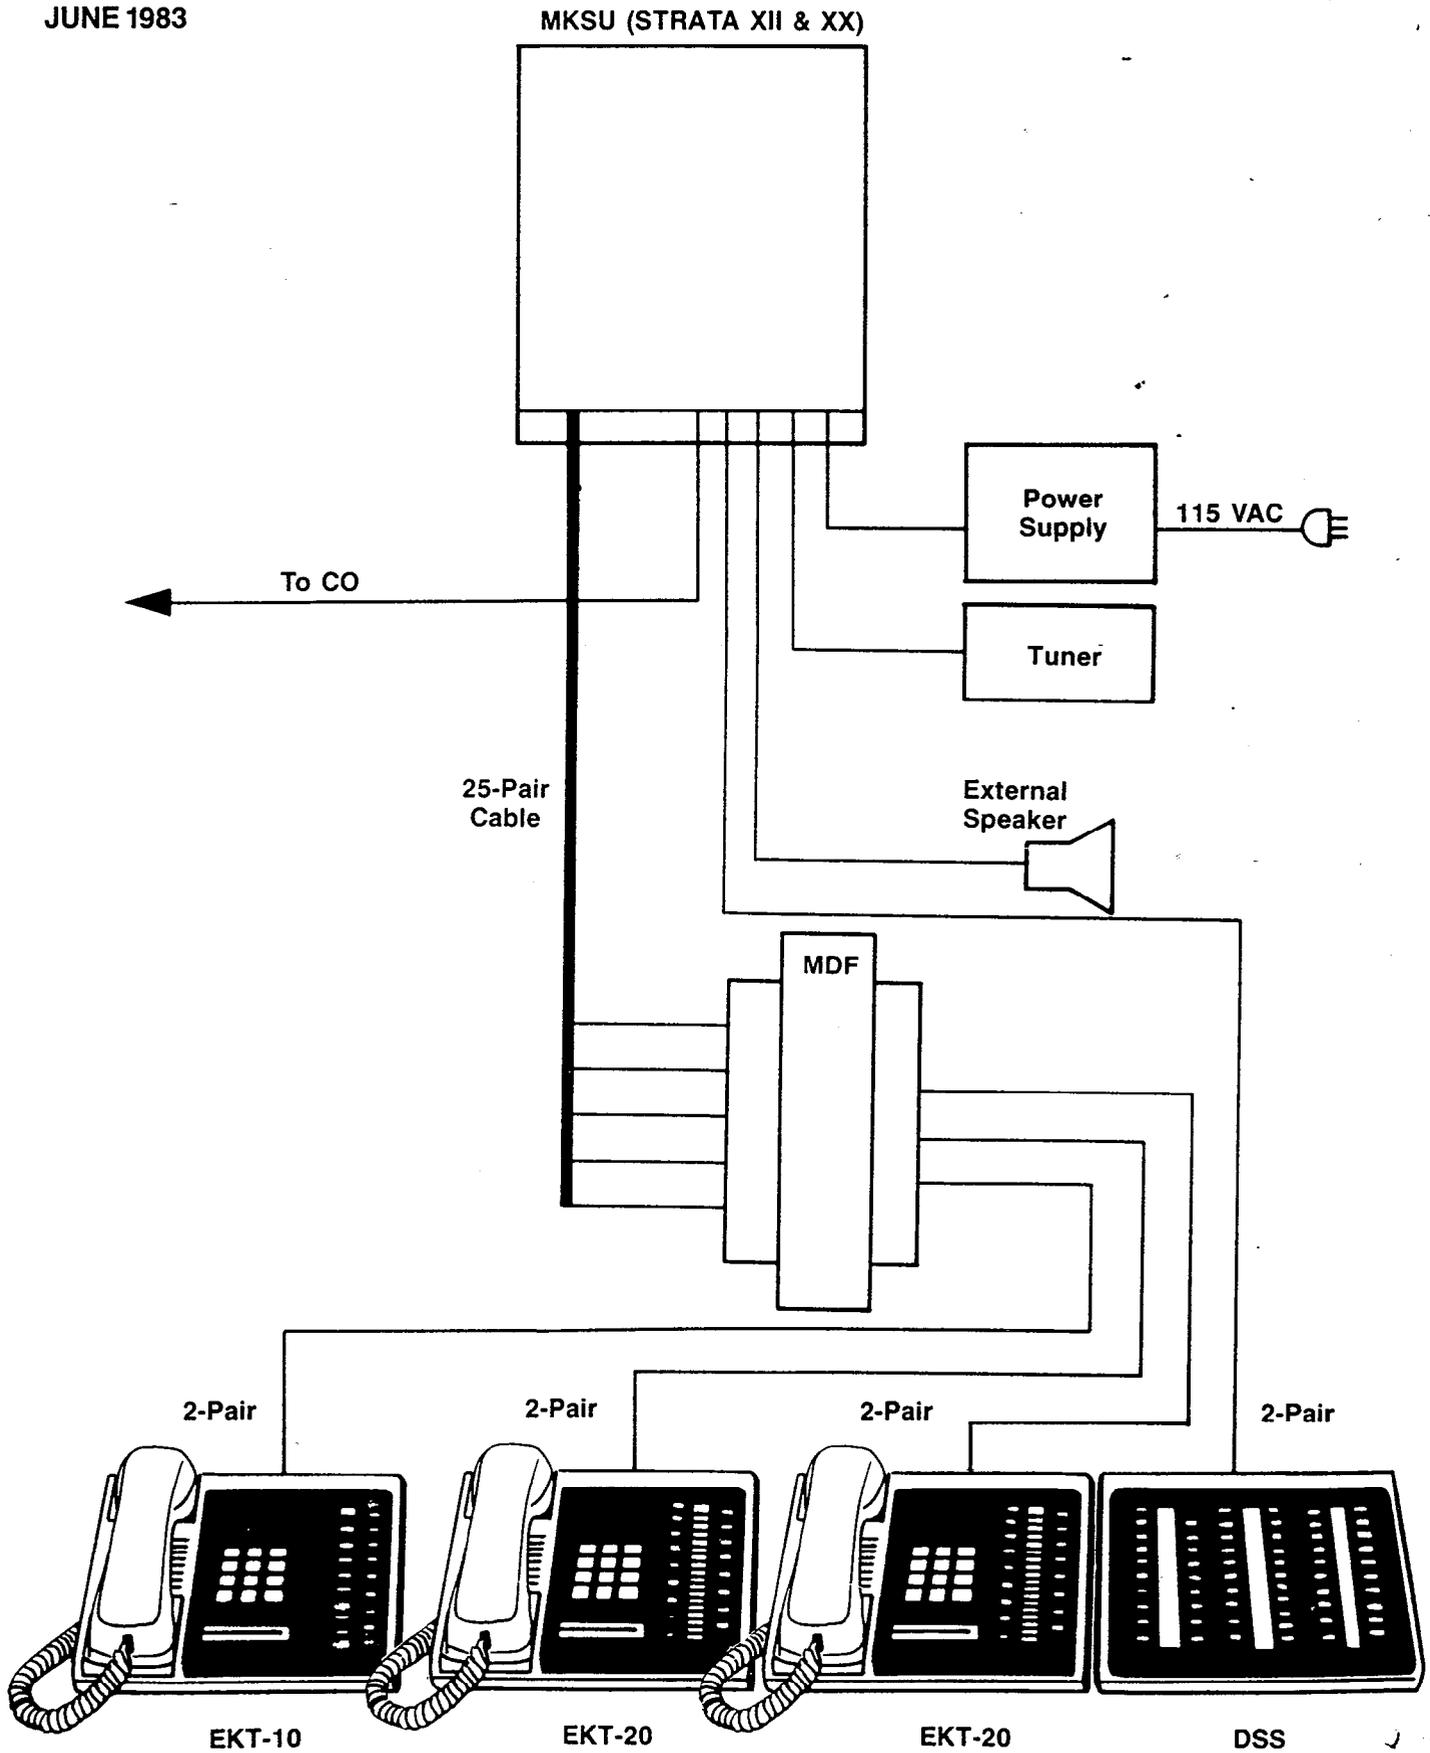

FIGURE 8 — SYSTEM DIAGRAM
05.01 The system (Figure 8) consists of an MKSU, power supply and up to 32 (STRATA XII) or 56 (STRATA XX) electronic key telephones (EKTs). All connections between the MKSU and EKTs are made via a customer-provided main